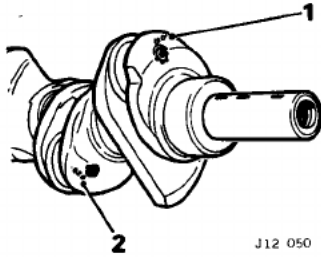

Fig. 65
a. Crankshaft. Regrinding of the crankshaft is generally recommended when wear or ovality in excess of 0,08 mm (0.003 in) is found. Grinding may be undertaken to a limit of 0,51 mm (0.020 in). Grinding beyond the limit of 0,51 mm (0.020 in) is not recommended and in such circumstances a new crankshaft must be obtained. Oversizes of journals are stamped in the adjacent web at the forward end of the crankshaft. 1.—Main journal. 2.—Crankpin. See Fig. 65